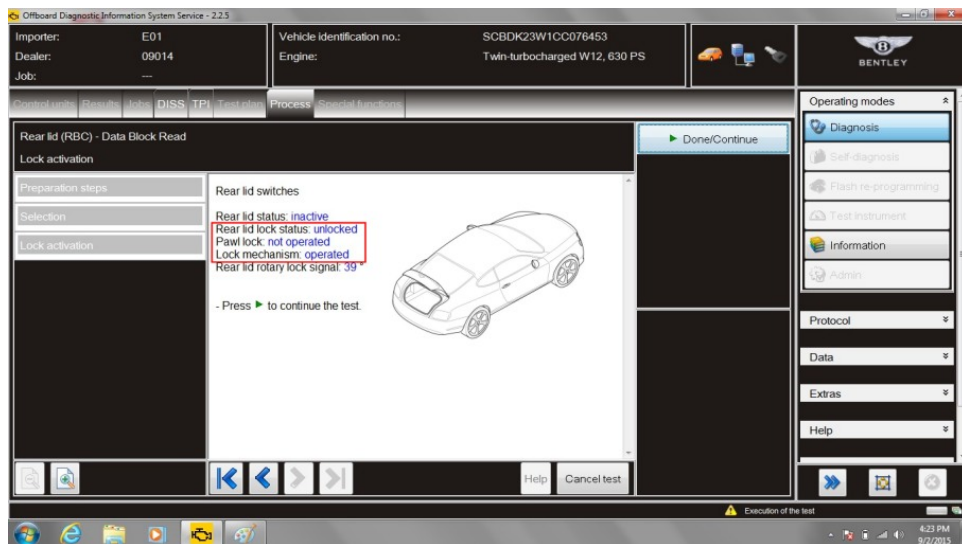

Figure 22
- The correct status for the boot lid micro switch assembly in the open position is highlighted in Figure 22